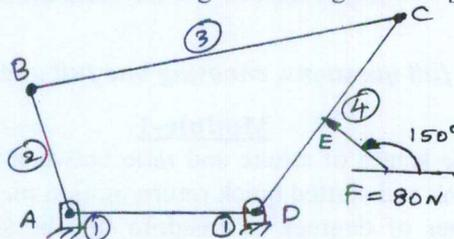

Fig.Q4(a)
- 4 a. A four-link mechanism with the following dimensions is acted upon by a force 80 N with an inclination of  $150^\circ$  on the link DC.  $AD = 500$  mm,  $AB = 400$  mm,  $BC = 1000$  mm,  $DC = 750$  mm,  $DE = 350$  mm. Determine the input torque  $T$  on the link AB for the static equilibrium of the mechanism for the given configuration. [Refer Fig.Q4(a)]